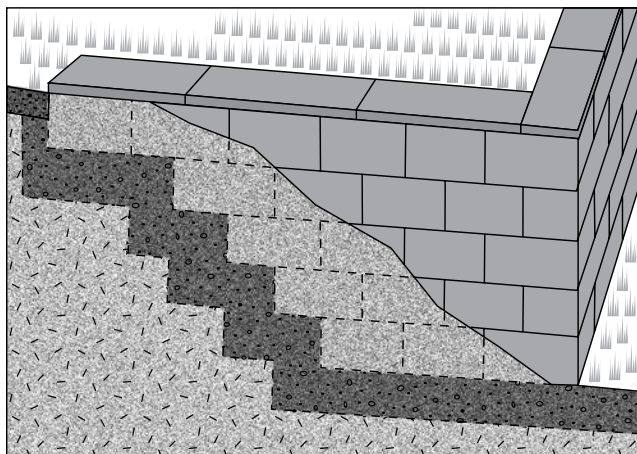

Figure 35. End of the wall should return into the bank.
**Wall ends** - If the retaining wall does not start or end at a building (or other structure), a "return" into the bank must be constructed (Figure 35). Walls that follow the grade of a slope may not need a return as each course will either be built into the slope or follow the slope of the hill.